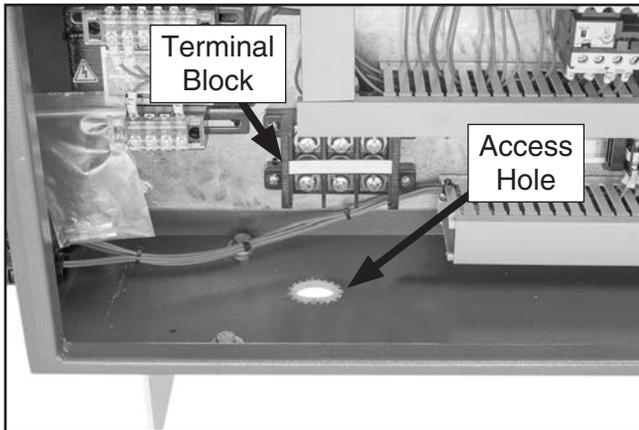

Figure 24. Location of electrical panel access hole and terminal block.
4. Connect conduit to electrical panel through access hole (see **Figure 24**).